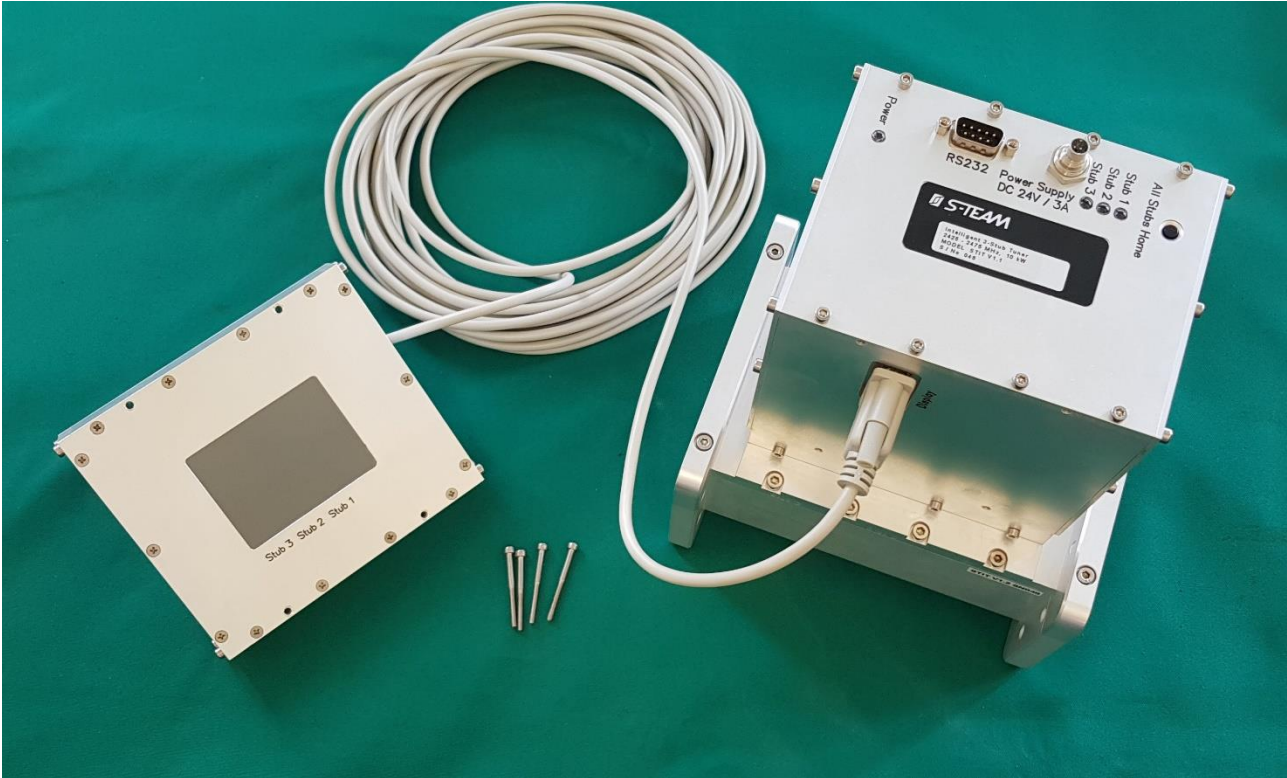
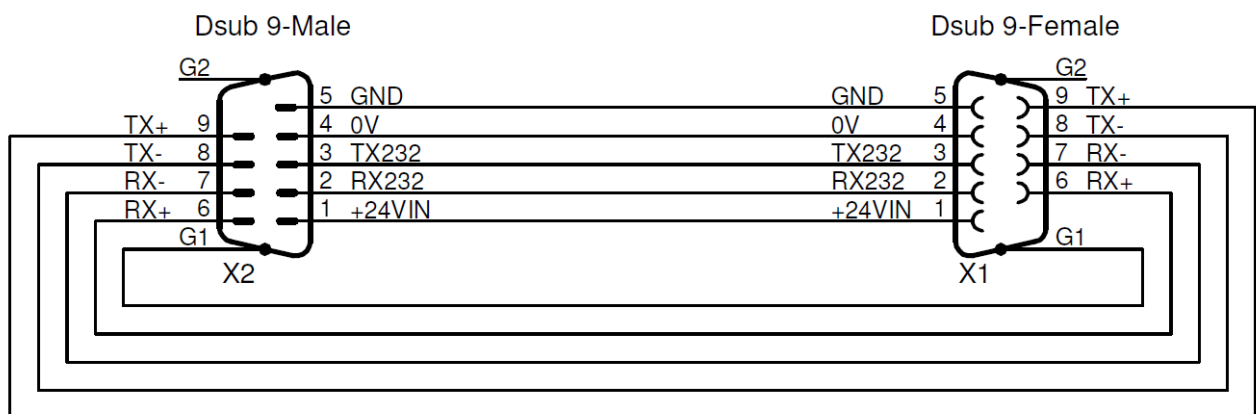

Fig. 2. STIT tuner with the touchscreen display module removed.
Fig. 5. Wiring of the one-to-one cable used for connecting the detached display module with the STIT main body.
The display module can be easily detached by unbolting the four screws (8) and unplugging the back-to-back D9 connector counterparts. The module can then be mounted on a remote-control panel of an industrial installation, using a one-to-one RS232 cable for connection (Fig. 2).
When the display module is separated from the STIT main body (Fig. 2), the connection between the two units can be accomplished using a one-to-one cable with male-female D9 connectors (Fig. 5). Such cables are readily available on the market but can be optionally ordered (standard lengths 3 m and 10 m).